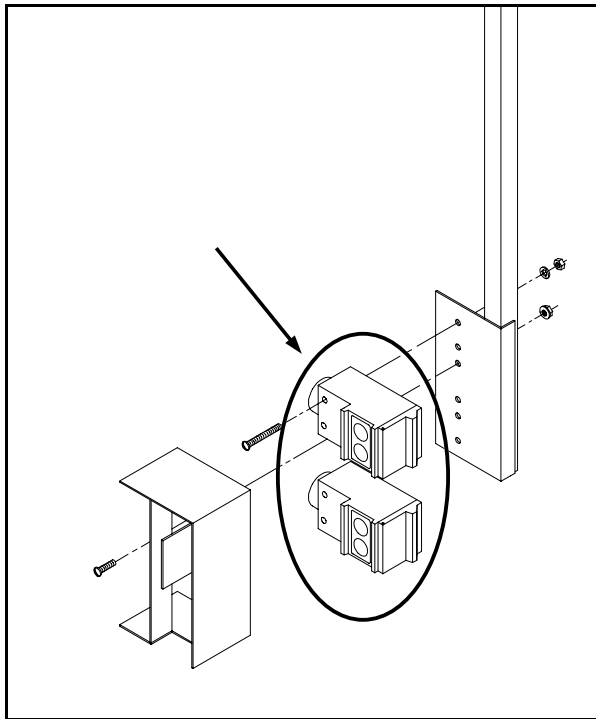
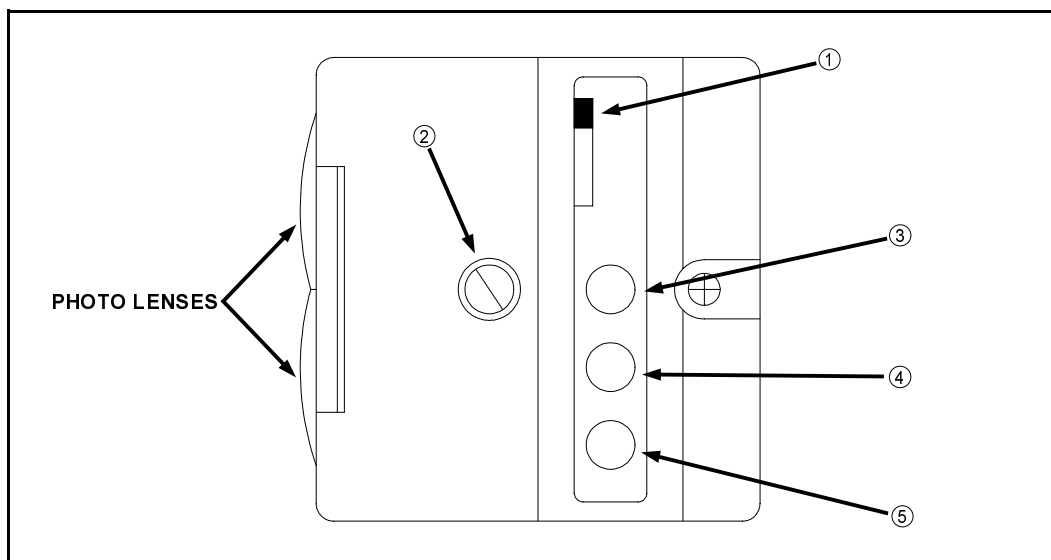

FIG 3.10
FIG 3.11
The upper and lower LS photolights (fig. 3.10) have L.E.D. lights (fig. 3.11) that indicate their operational status.
**LT/DK SWITCH** – Light/Dark switch on photolight (fig. 3.11, item 1) changes the activated condition of green L.E.D. (see below) from *ON* (“LT”) to *OFF* (“DK”). Switch does not affect the functional operation of the light, only how it is displayed. Switch should be set to “LT”.
**SENSITIVITY ADJUSTMENT SCREW** – Sensitivity adjustment screw (fig. 3.11, item 2) should always be set to maximum.
**YELLOW L.E.D.** – Yellow L.E.D. (fig. 3.11, item 3) indicates power on.
**GREEN L.E.D.** – Green L.E.D. (fig. 3.11, item 4) indicates output energized (sending a signal to Tassel-tron® box, opening the raise or lower stack valve).
**RED L.E.D.** – Red L.E.D. (fig. 3.11, item 5) indicates photolight is receiving reflected signal.